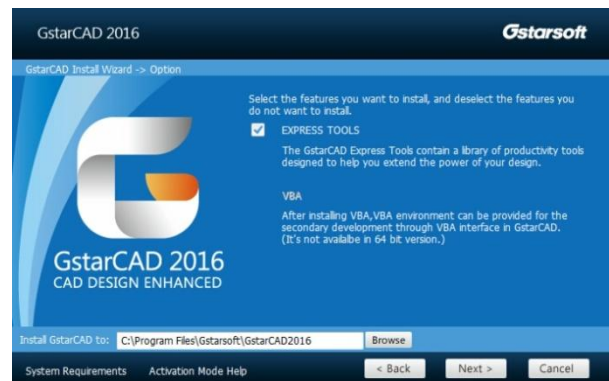

Figure 1-2
2.- In the "GstarCAD Install Wizard->Option" dialog box, Users can select or deselect the features according to your need. Click the "Next" button. See Figure 1-2.